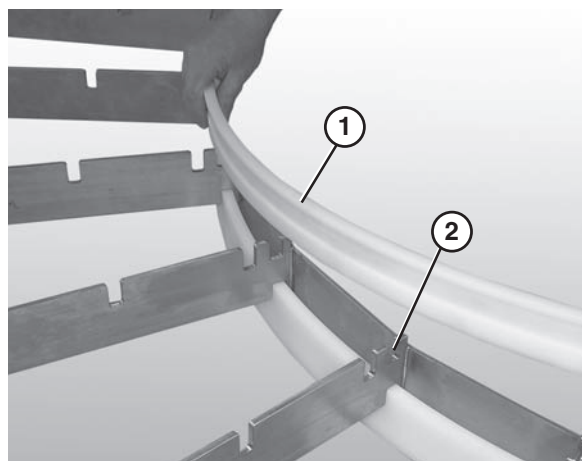

Figure 25
1. Insert the inside curve top wear strip (**Figure 25, item 1**) into the innermost slot (**Figure 25, item 2**) on the inside of the frame.